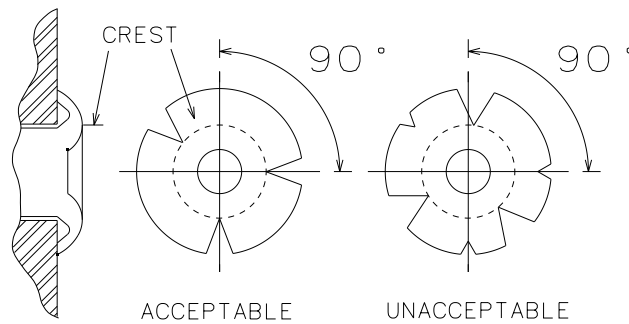

Figure 204 - Rivet / Pin Installation Acceptance Criteria For Metallic and Organic Linings
- f Refer to Figure 204 for rivet / pin installation acceptance criteria.
- 6 With tubular rivets, splits may result from the clinching operation. Refer to rivet sketch, Figure 204, for acceptance criteria.